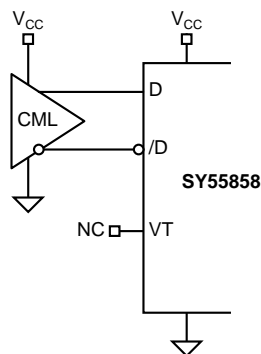

**Figure 3. 50Ω Output Termination**
**Note 4.**  $V_{OUT(SWING)}$  is defined as the swing on one output of a differential pair, that is  $|V_{OH} - V_{OL}|$  on one pin. The swing for common mode immunity purposes is  $2 \times V_{OUT(SWING)}$ . Actual voltage levels and differential swing will depend on customer termination scheme. Typically, a 400mV swing is available in the 50 $\Omega$  environment. Refer to the "CML Output Termination Application" section, Figures 3 and 4, for more details.
**Note 5.** Tested using environment of Figure 3, 50 $\Omega$  equivalent load. AC parameters are guaranteed by design and characterization.
All CML inputs accept a CML output from any other member of this family. All CML outputs are source terminated 50Ω differential drivers as shown in **Figure 3**.